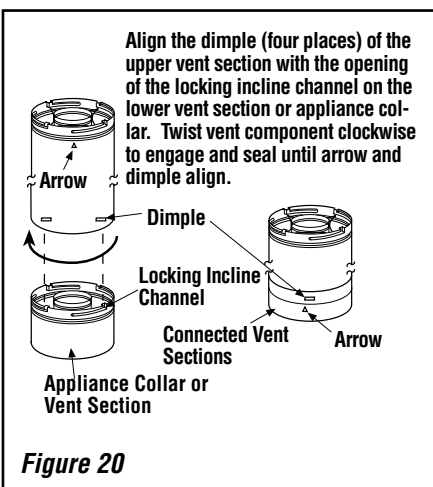

Figure 20
B. Attach vent components to appliance - Secure Vent SV4.5 direct vent system components are unitized concentric pipe components featuring positive twist lock connections (see **Figure 20**).
To attach a vent component to the appliance collar, align the dimpled end over the collar, adjusting the radial alignment until the four locking dimples are aligned with the inlet of the four inclined channels on the collar (**refer to Figure 20**). Push the vent component against the collar until it fully engages, then twist the component clockwise, running the dimples down and along the incline channels until they seat at the end of the channels. The unitized design of the **Secure Vent** components will engage and seal both the inner and outer pipe without the need for sealant or screws. If desired, a #6 x 1/2" screw may be used at the joint, but is not required as the pipe will securely lock when twisted.
Push the vent component against the previous section until it fully engages, then twist the component clockwise running the dimples down and along the incline channels until they seat at the end of the channels. **This seating position is indicated by the alignment of the arrow and dimple as shown in **Figure 20**.**
Secure Vent SV4.5 direct vent system components are unitized concentric pipe components featuring positive twist lock connection, (refer to **Figure 20 on Page 15**). All of the appliances covered in this document are fitted with collars having locking inclined channels. The dimpled end of the vent components fit over the appliance collar to create the positive twist lock connection.
D. Attach vent components to appliance - To attach a vent component to the appliance collar, align the dimpled end over the collar, adjusting the radial alignment until the four locking dimples are aligned with the inlets of the four incline channels on the collar (refer to **Figure 20 on Page 15**).